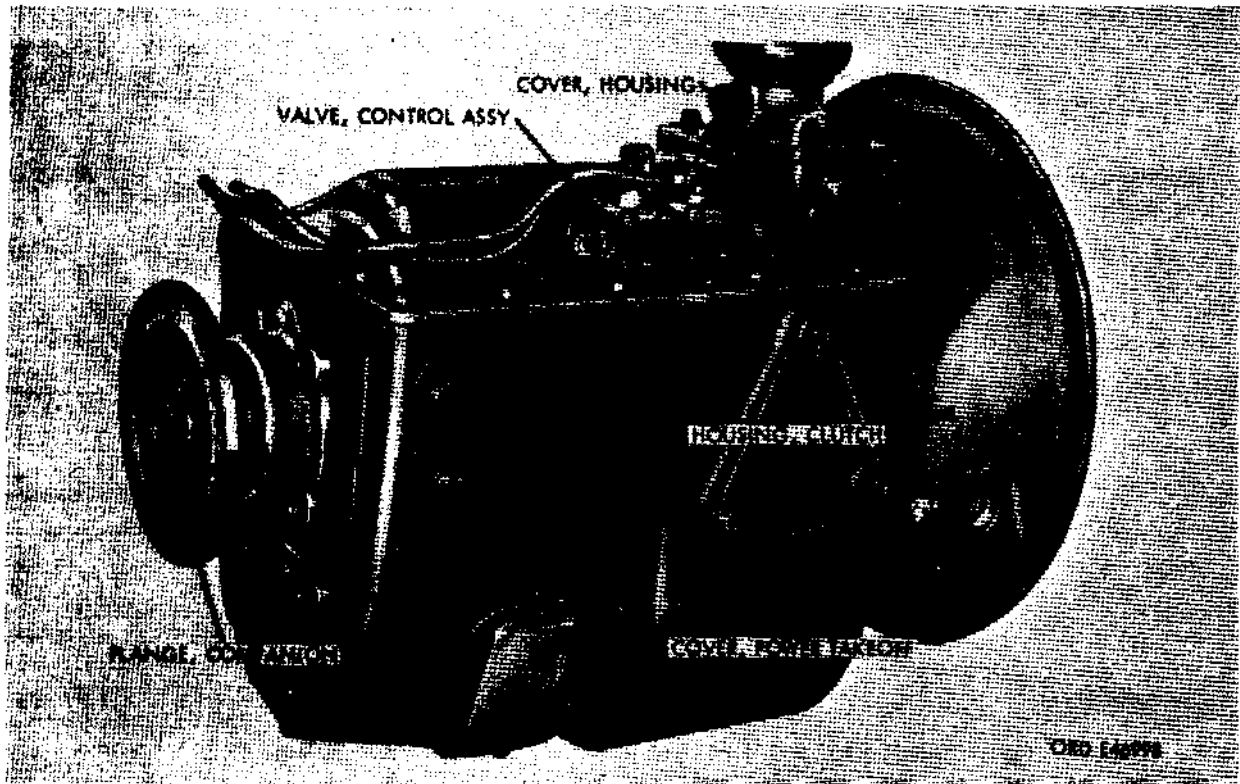

Figure 239. Transmission assembly-right rear view.
c. Transfer DeClutch Shift Lines. Disconnect transfer declutch shift lines (fig. 239) at rear of transmission.
- (1) Remove cab floor tunnel and gearshift lever. Refer to TM 9-2320-211-20.
- (2) Disconnect transmission vent line (fig. 239) at tee connection and clutch lever linkage.